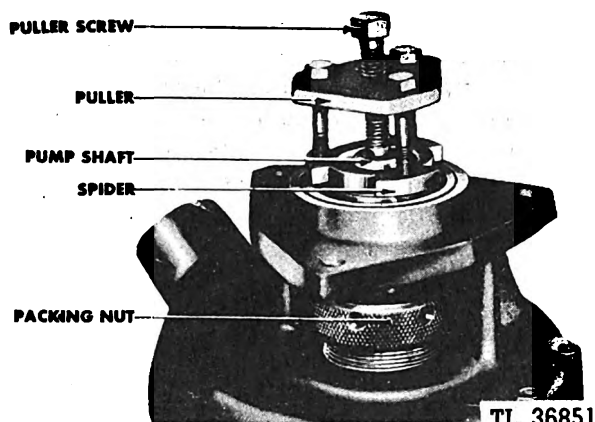

Fig. 199. Pulling Spider from Shaft
(2) Pull the spider and the ball bearings from the shaft with a wheel puller as indicated in Figure 199.
(3) Remove the water pump cover capscrews and bolt.